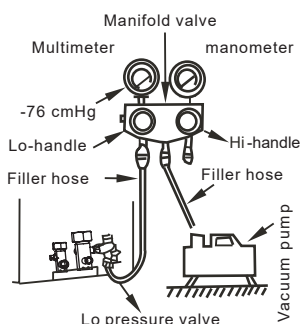

Fig. 6-4
- Use a vacuum pump to expel the air (Fig. 6-4 ): (For method of using the manifold valve, see the operation manual of manifold valve)